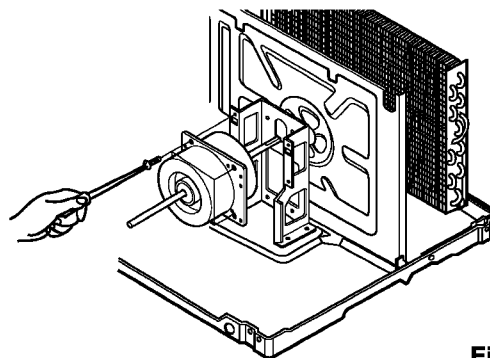

Figure 28
7. Remove the 2 or 4 screws that fasten the motor from the mount motor. (See Figure 28)
9. Re-install the components by referring to the removal procedure, above.(See Figure 28)